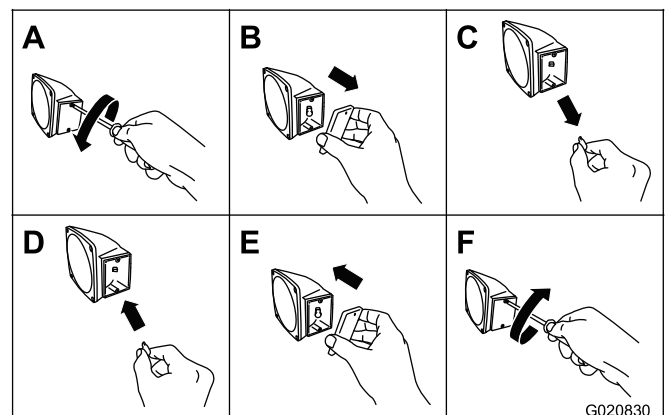

Figure 57
1. Use a screwdriver to remove the 2 screws from the small rectangular lens on the side of the light (Figure 57).
2. Remove the lens (Figure 57).
3. Pull the bulb out of the socket (Figure 57).
4. Push a new 168 bulb into the socket (Figure 57).
5. Install the lens and the 2 screws (Figure 57).